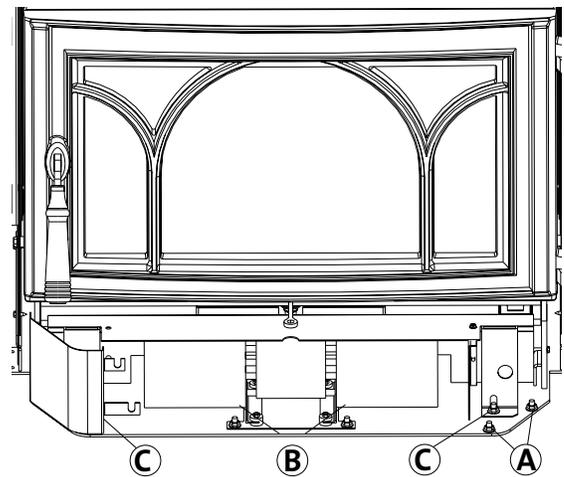

Figure 14. Blower removal.
3. Remove the Ash Lip Support from the side where the power receptacle and switch will be installed. Use the 10mm socket with 6" extension to loosen the two nuts (A, Fig. 14) that secure the panel to the Base Plate.
4. Loosen the two hex nuts (B, Fig. 14) and pull the blower out of the firebox.
5. Remove the Blower Shroud with removal of two hex nuts (C, Fig.14) from the shroud legs.